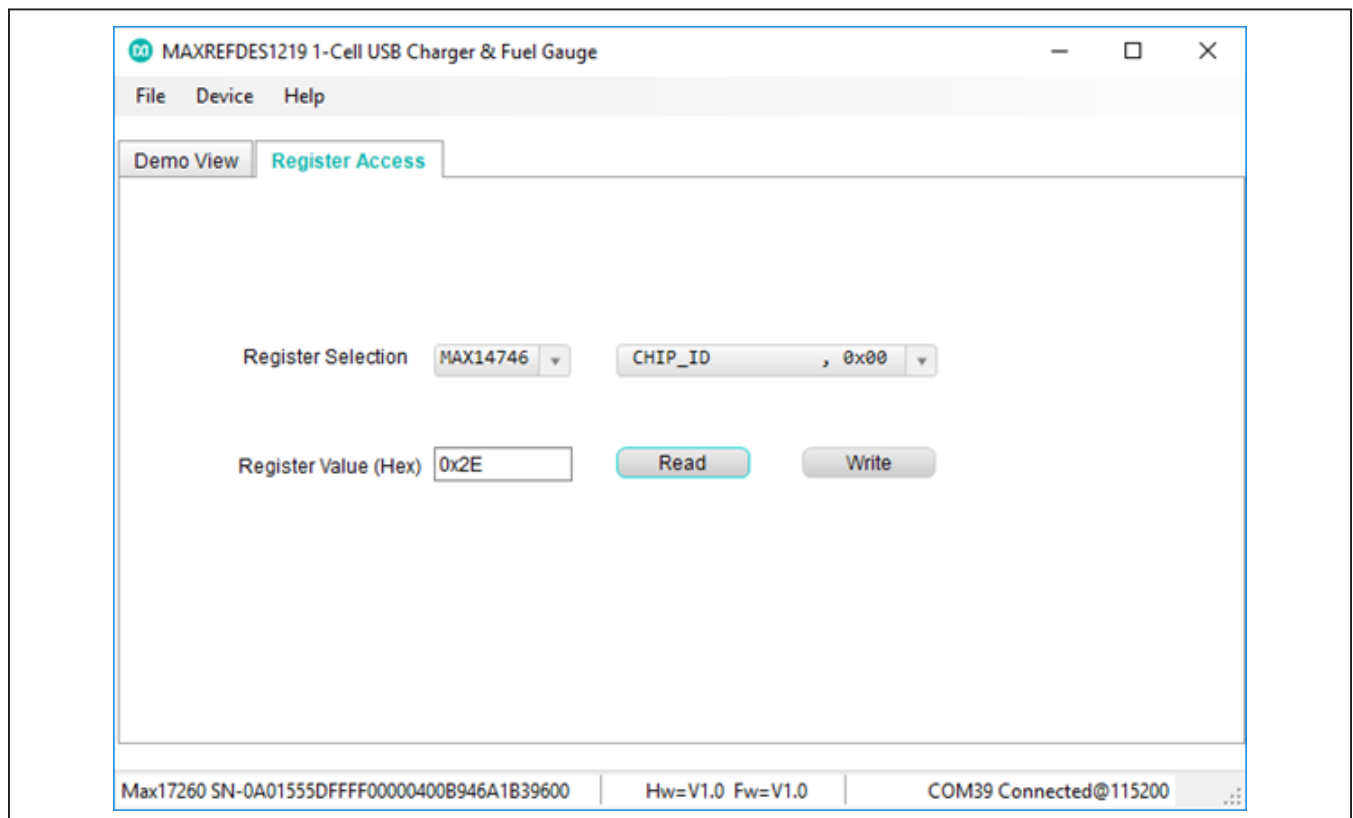

Figure 8. Register Access window.
6) Read/write all the registers of the two chips and configure various functions independently according to different needs in the **Register Access** window (Figure 8).